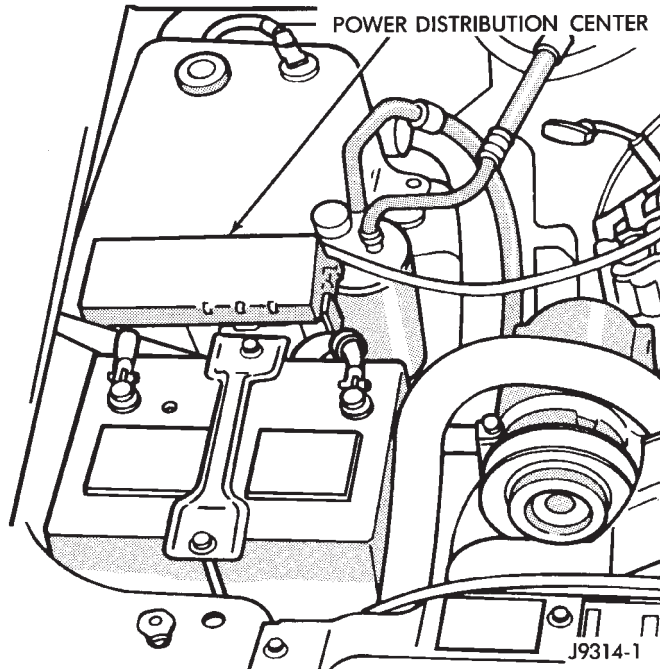

Fig. 23 Power Distribution Center (PDC)
(2) Inspect the battery cable connections. Be sure that they are clean and tight.
(3) Inspect fuel pump relay and air conditioning compressor clutch relay (if equipped). Inspect the ASD relay connections. Inspect starter motor relay connections. Inspect relays for signs of physical damage and corrosion. The relays are located in the Power Distribution Center (PDC) (Fig. 23). Refer to label on PDC cover for relay location.